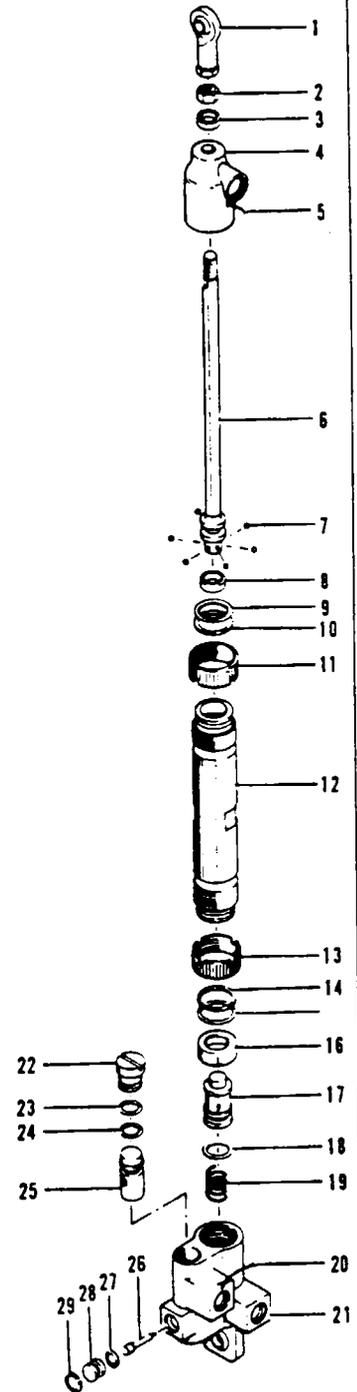

Figure 32-13. Gear Door Actuating Cylinder
**DISASSEMBLY OF GEAR DOOR ACTUATING CYLINDER. (WTC-2218-1) (Refer to Figure 32-13.)**
**ASSEMBLY OF GEAR DOOR ACTUATING CYLINDERS. (WTC-2218-1) (Refer to Figure 32-13).**